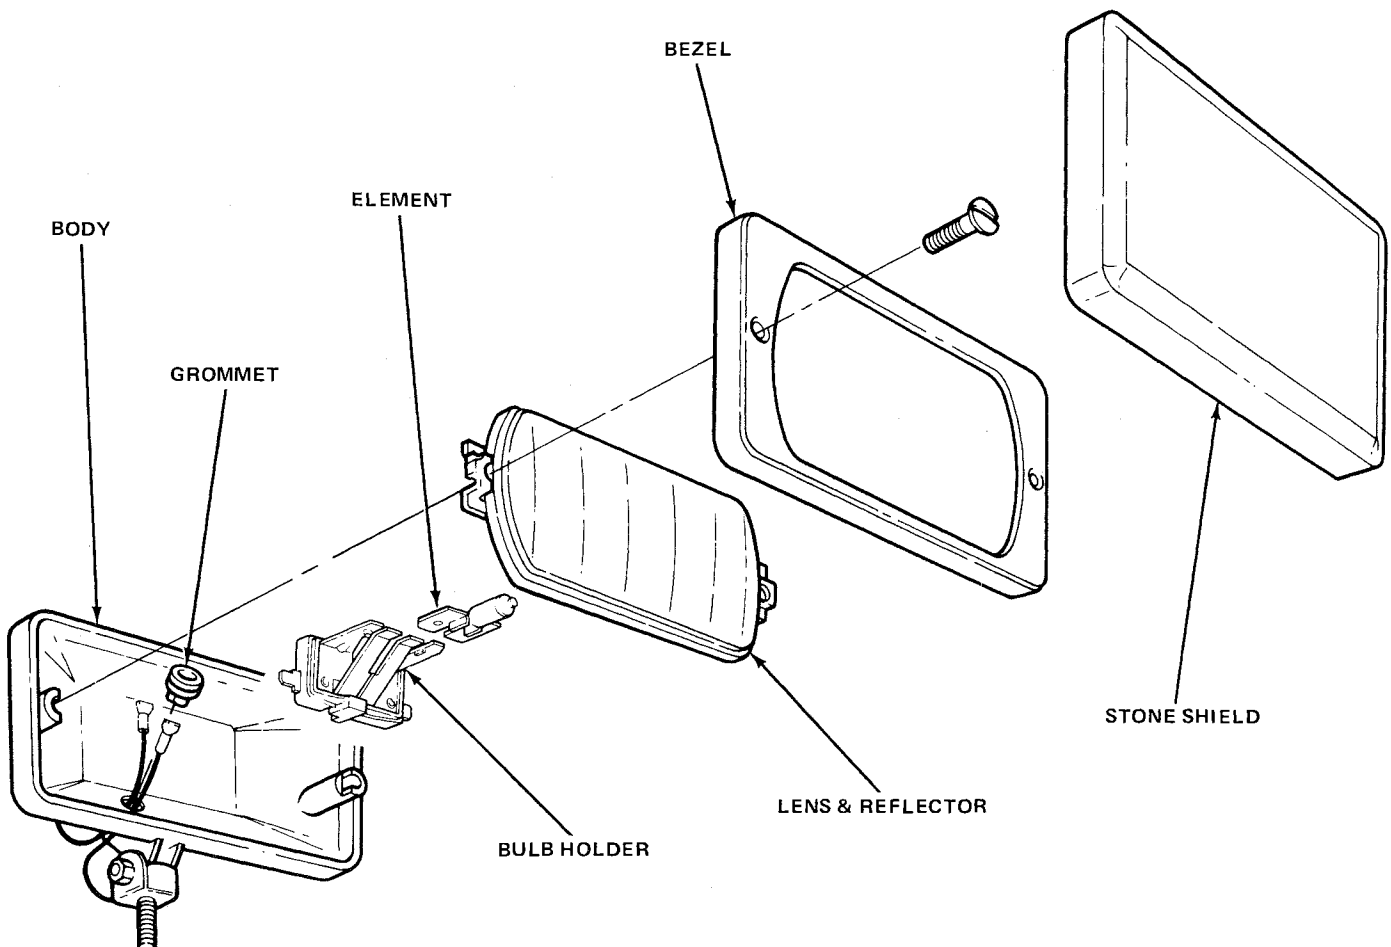

Fig. 3R-18 Off-Road Driving Lamp Components
- (1) Remove stone shield from lamp (fig. 3R-18).